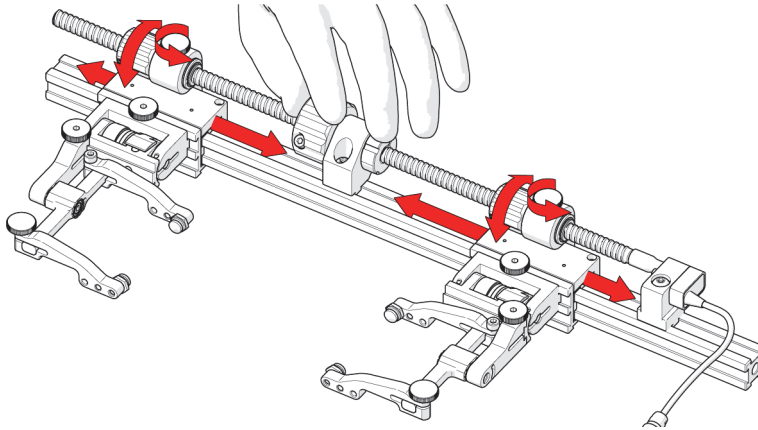

Figure 3-15 Individual slider positioning
2. Loosen the knob at the top of the slider. Rotate the small knobs allowing individual placement of the sliders. The main knob must be held firm when rotating the small knobs to achieve the correct movement (see Figure 3-15 on page 89).